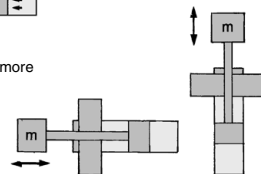

Fig. 2 $\eta = 0.5$ or less
- 2) Using the cylinder for dynamic operation: load ratio $\gamma = 0.5$ (Fig. 2)